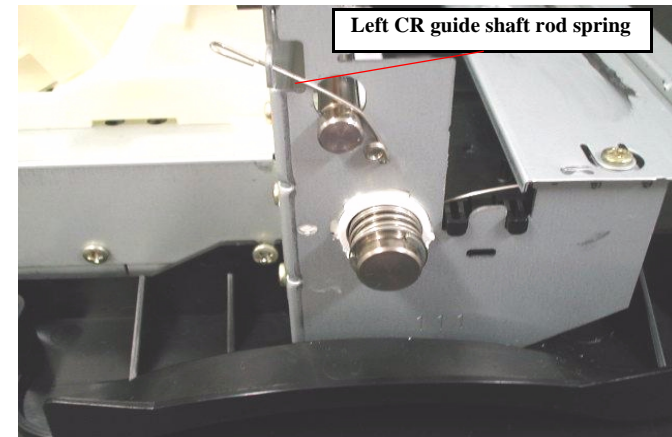
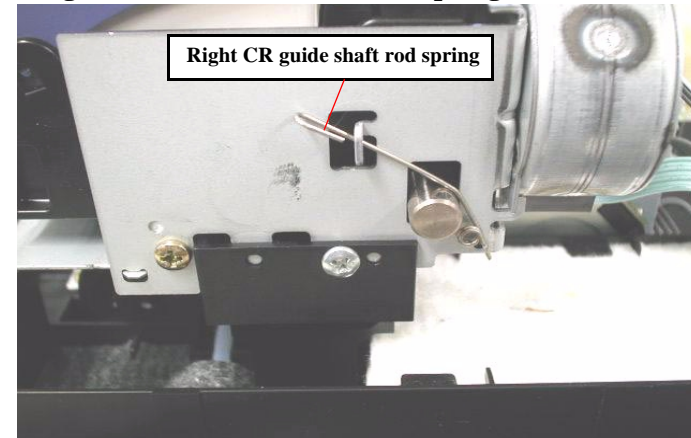

Figure 4-50. Release Left Rod spring for CR shaft
Figure 4-51. Release Right Rod spring for CR shaft
- Make sure that the CR guide shaft rod springs are correctly set in the suitable position. Refer to Figure 4-50, Figure 4-51.